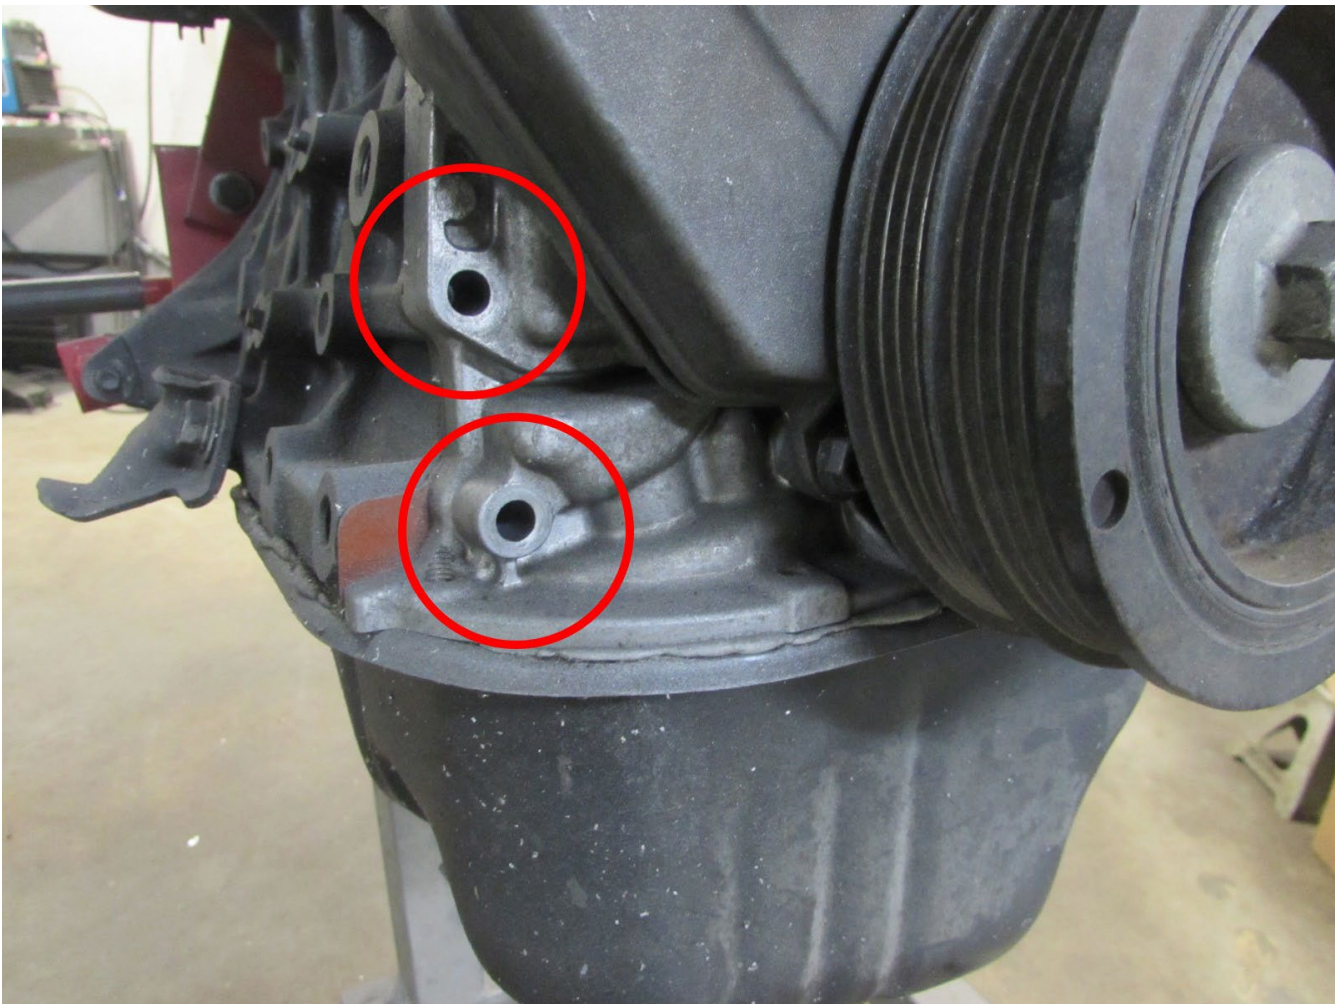

Figure 2
2. Remove the (2) M6 bolts using a 10 mm socket on the oil pump assembly. (Fig 2)